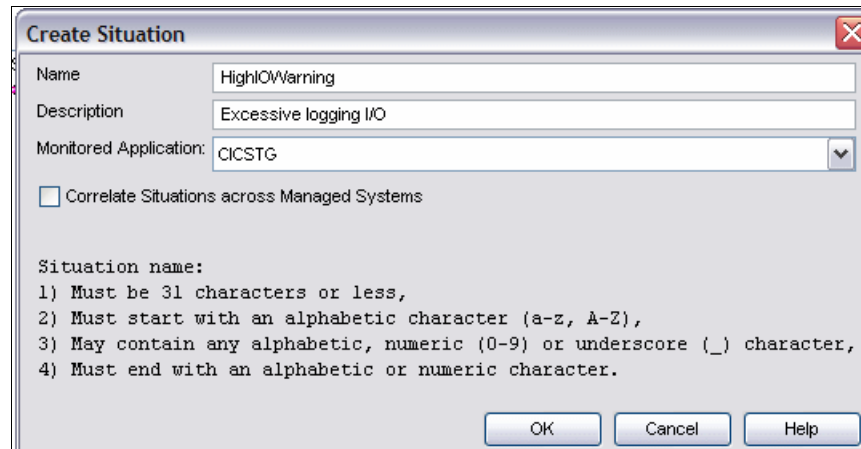

Figure 6-11 HighIOWarning
4. A Create Situation pop-up menu appears, as shown in Figure 6-11.